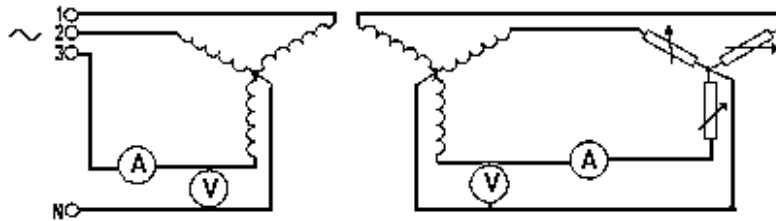

Figure 3-4
1. Set up the equipment as shown in Figure 3-4 “Star-to-Star” connection.